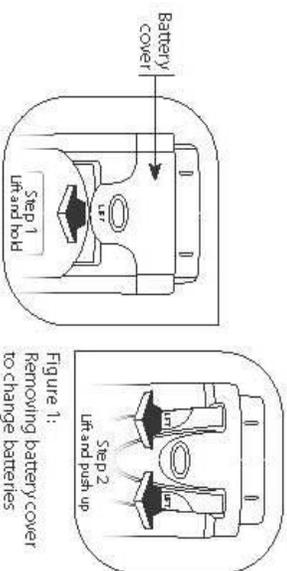

Figure 1:
Changing Batteries: To remove batteries, lift up front battery cover and hold in position before lifting two sides of the pocket clip (Figure 1). Remove old batteries and replace with fresh ones. Note polarity as shown in battery compartment. No re-calibration is required after battery change since tester's non-volatile memory function retains calibration.
2. Next, hold the cover with your right hand, at the same time release the front catch with your right thumb. Slide up to remove the battery cover (Figure 1)